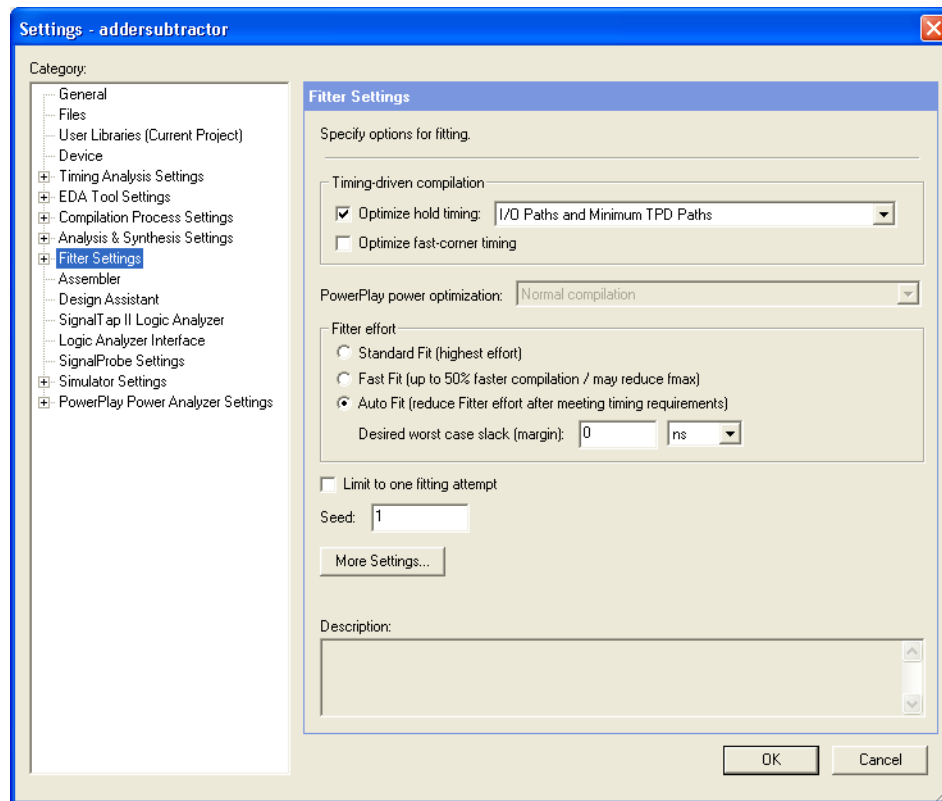

Figure 32: Fitter settings.
2. Click **Assignments > Settings** and then select the category **Fitter Settings** which opens the window in Figure 32. Three different levels of effort can be given. Choose the Auto Fit option, which instructs the Fitter to stop as soon as it finds an adequate implementation. The Fast Fit option reduces the compilation time, but it may produce a lower f_{max} . The third option, called Standard Fit, forces the Fitter to produce the best implementation it can find; at this effort level the Fitter will exceed the user's timing requirements as much as it can, which often results in longer compilation time. Click OK, and recompile the circuit.